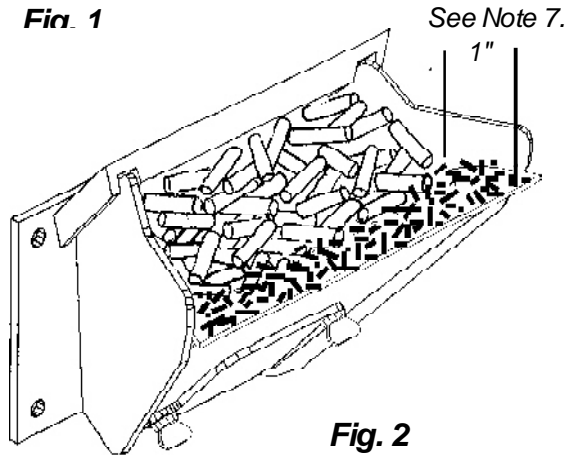

Fig. 2
High output is determined by the feed rate setting. This setting, generally on #4, can be increased if higher burn rates are necessary. The unit's maximum burn rate should not create less than 1" of ash on the burn pot front edge. See Fig.2, Page 4. Overfeeding is not a safety concern, but fuel may be wasted if unburned pellets fall into the ash pan.
This allows for automatic ignition upon start-up only. The unit can then be set at any desired setting. The heat output and fuel consumption will remain constant regardless of room temperature. The unit's maximum feed rate should not create less than 1" of ash on the burn pot front edge. See Fig 2, Page 4.
7. Setting the feed adjuster # for maximum burn: With the unit burning in "AUTO", turn to "Stove Mode" and put the fan on "H". Set the Temperature Dial to #7. Allow the unit to burn for about 30 minutes and check ash on front of burn pot. Fig. 2. If the ash line is larger than 1", turn the feed adjuster from #4 to #5. Allow another 30 minutes of burn time and check again. If, at #6 setting, a 1" or less ash bed is not obtainable, it is not a problem. The 1" ash bed is only a maximum burn rate and at most normal settings the ash bed will be larger.